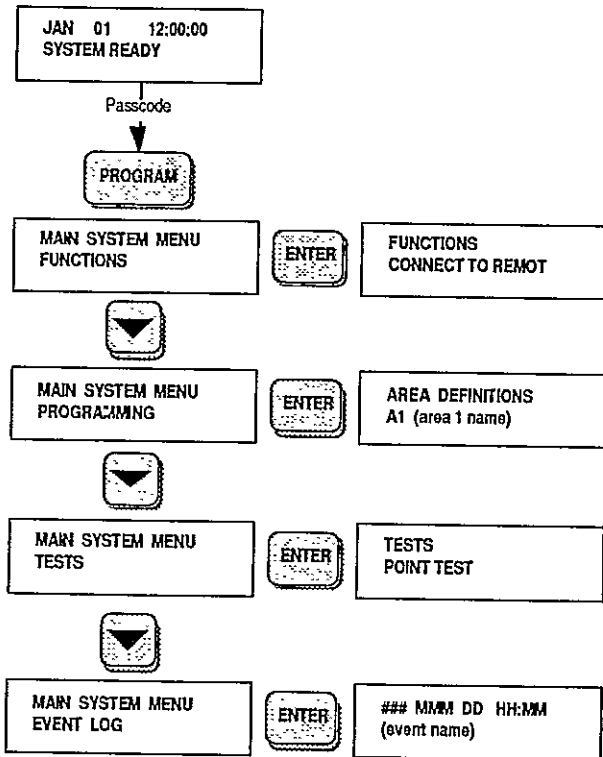

FIGURE 1: THE PROGRAMMING MODE
The first level of the Programming Mode is the Main System Menu. From there you can use the Up/Down arrow keys to advance through the different submenus (see Fig. 1). To enter into a submenu, press "Enter." More information on programming can be found in the "Programming" section of this manual.
In the Programming Mode (see Fig 1) it can also be used to advance through the Main System Menu.
In the Programming Mode (see Fig 1), it is used to enter into a submenu from the Main System Menu or accept changes made to the submenu entry and advance to the next item.
**Up and Down Arrow Keys** In the Programming Mode Main System Menu (see Fig 1), these keys are used to advance through the programming options.